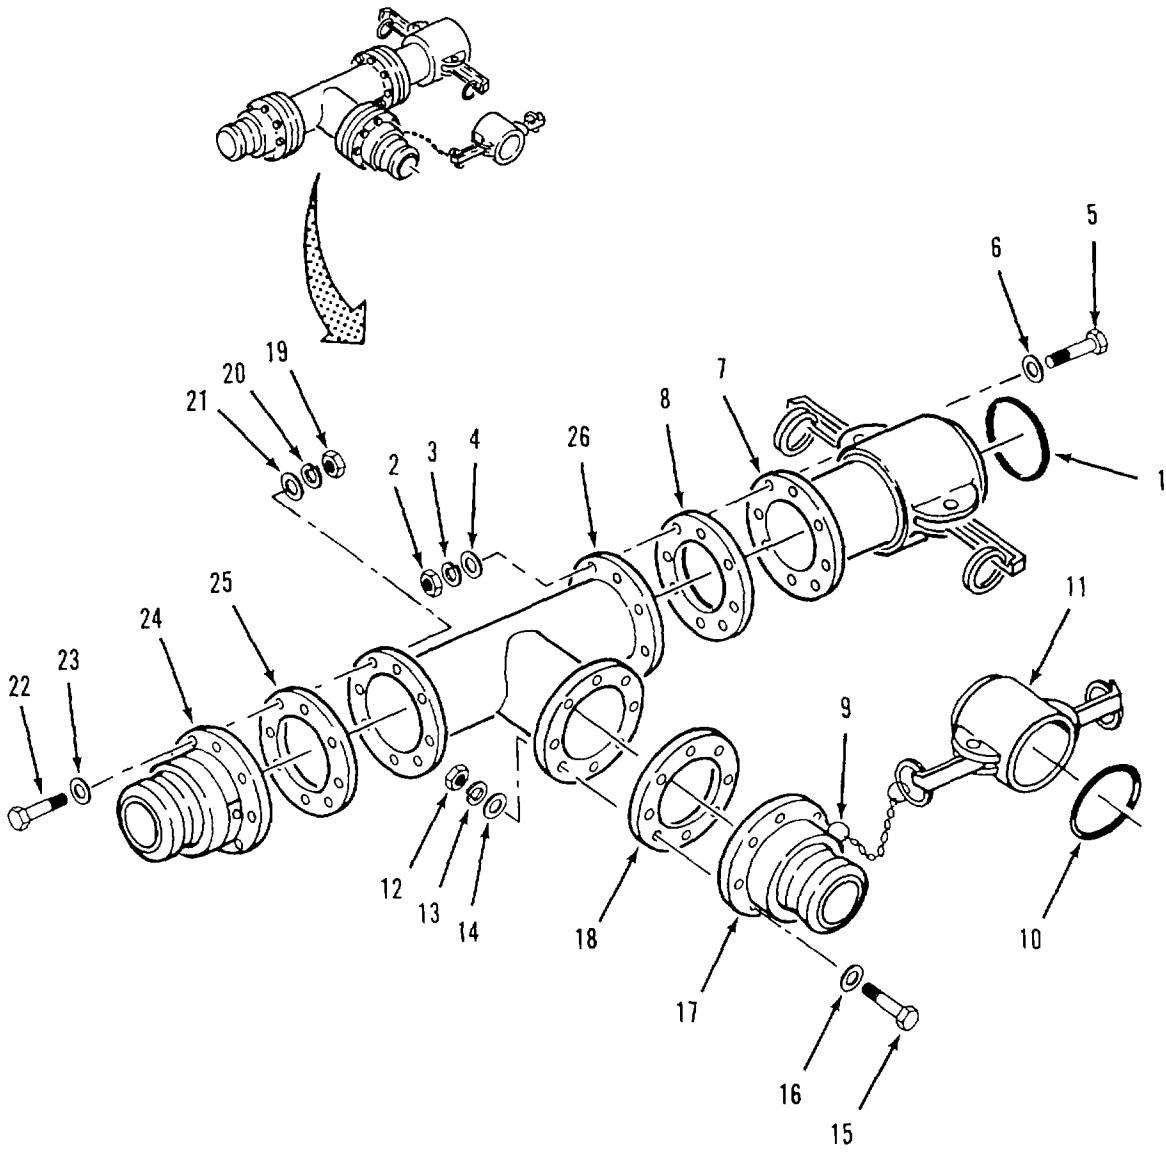

Figure 4-22. Tee Assembly (9112-Y2) Assembly
- e. Assembly. Refer to figure 4-22.
- (1) Position gasket (25) and male coupling (24) on tee (26).
- (2) Install eight flat washers (23), screws (22), flat washers (21), lockwashers (20) and nuts (19).
- (3) Position gasket (18) and male coupling (17) on tee (26).
- (4) Install eight flat washers (16), screws (15), flat washers (14), lockwashers (13) and nuts (12).
- (5) Connect ring (9) and attached cap (11) to male coupling (17).